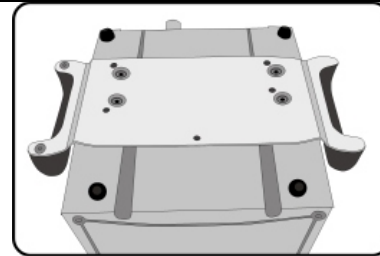

Figure 192: Positioning the Mounting Plate
4. Lay the Transport mounting plate (item no. 1) on the ventilator (see Figure 192).